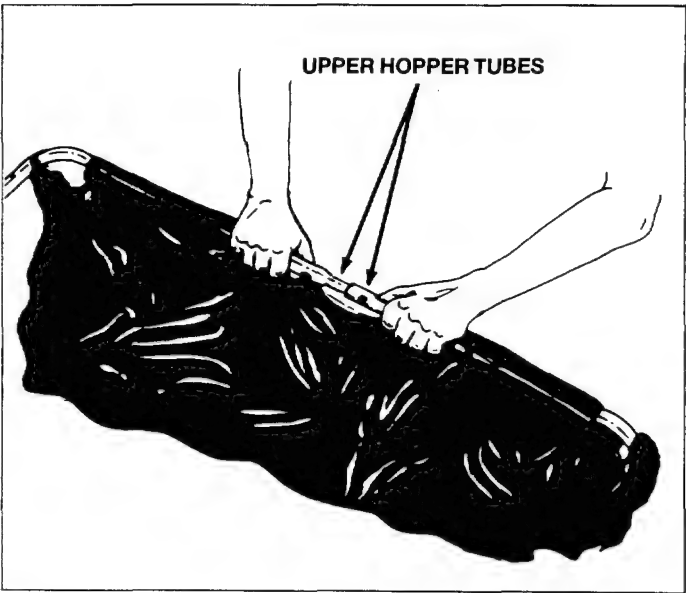

Fig. 14
3. Slide the two upper hopper tubes together, as shown in figure 14. Line up the center holes.